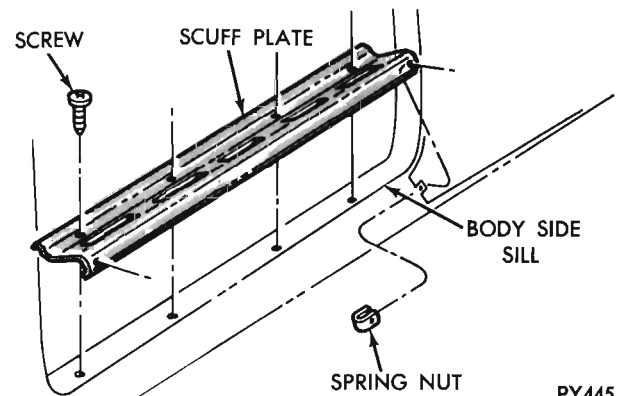
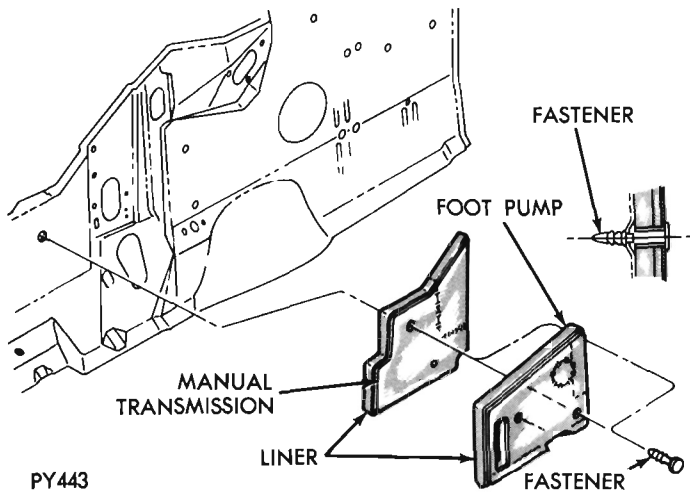

Fig. 3 - Scuff Plate
Fig. 4 - Dash Liner Installation
- (3) Insert fastener into retainer on shelf trim panel.
- (4) Position and align shelf trim panel to metal shelf panel and snap in place.
**Scuff Plate (Fig. 3)**
- (1) Assemble spring nut to quarter trim panel.
- (2) Position scuff plate to body side sill and secure with screws.
**Dash Liner Installation (Fig. 4)**
- (1) Remove gated section for jobs with manual transmission and gated hole for windshield washer foot pump.
- (2) Position liner assembly to dash panel and secure with fastener.